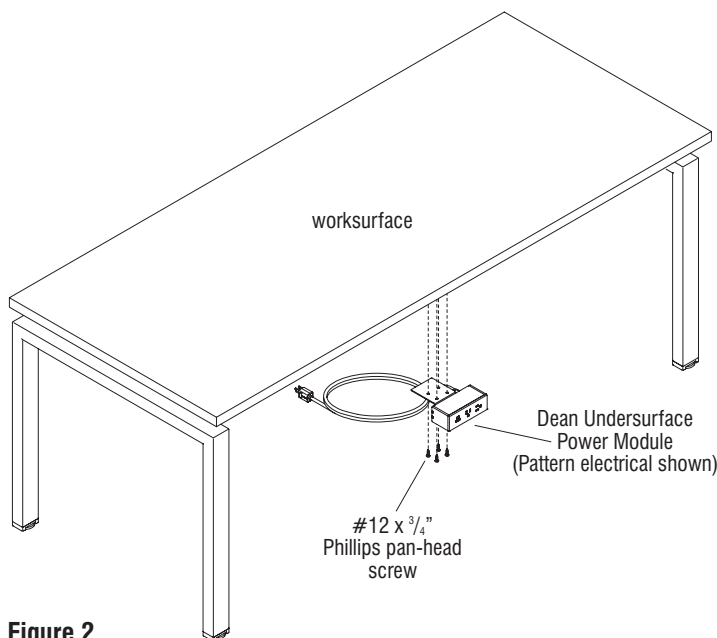

Figure 2
1. Position the front of the Dean Undersurface power module to be flush with the bottom edge of the worksurface. Align the two front mounting holes of the power module with one of the three sets of pre-drilled mounting hole locations underneath the front, user side of the worksurface as illustrated (Figure 2, Details F & G). Secure the power module to the worksurface using two #12 x 3/4" Phillips pan-head screws (Figure 2 & Details F & G).